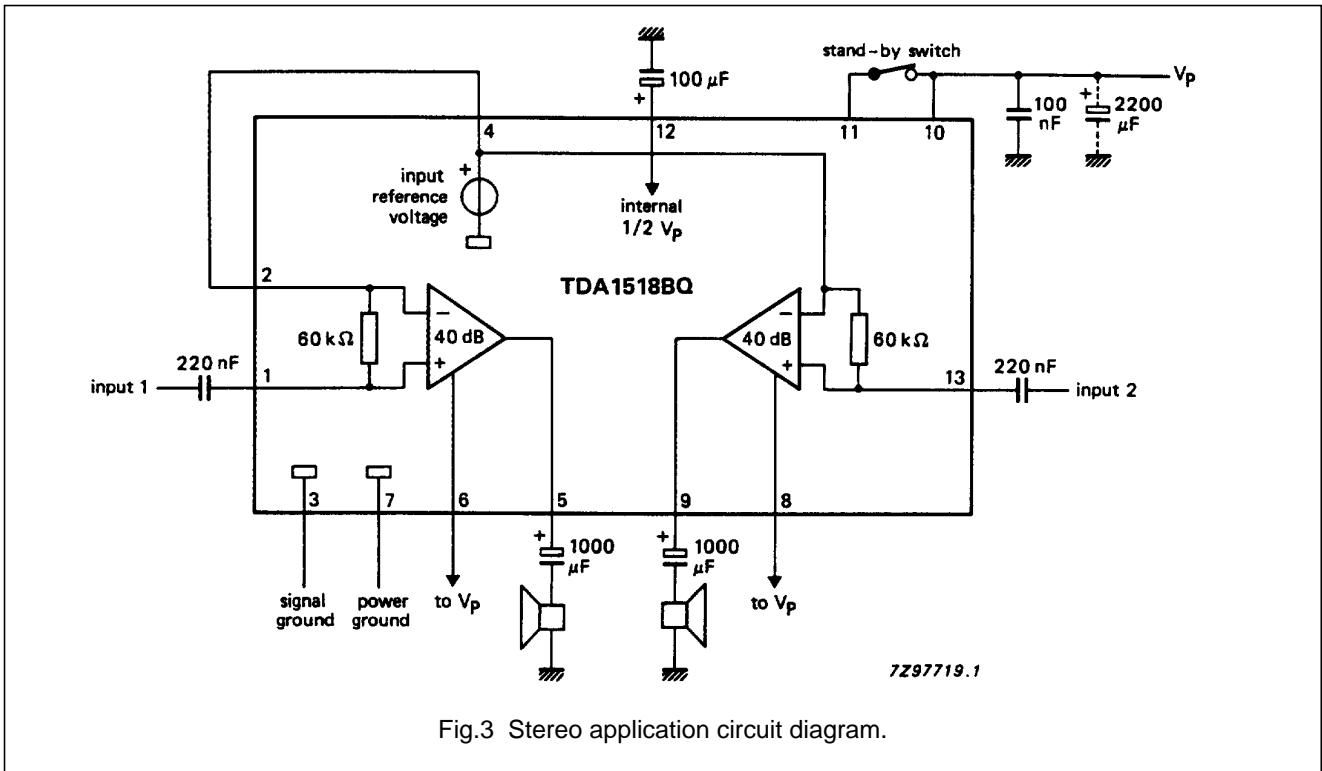

Fig.3 Stereo application circuit diagram.
- All characteristics, for stereo application are measured using the circuit shown in Fig.3.